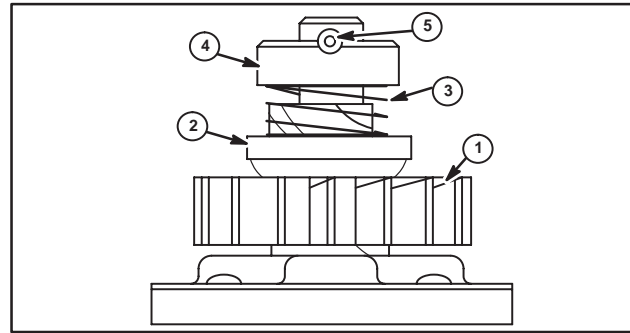

Fig. 66
1. Assemble pinion gear with beveled edge on the gear (1) up as shown in Fig. 66.
2. Assemble cup (2) and spring (3) on gear if original assembly was so equipped, and fit retainer (4) on shaft.
3. Drive new roll pin (5) through retainer slot and armature shaft hole. The roll pin should be centered in shaft within $1/32$ " (.8 mm). Assemble with new roll pin only.